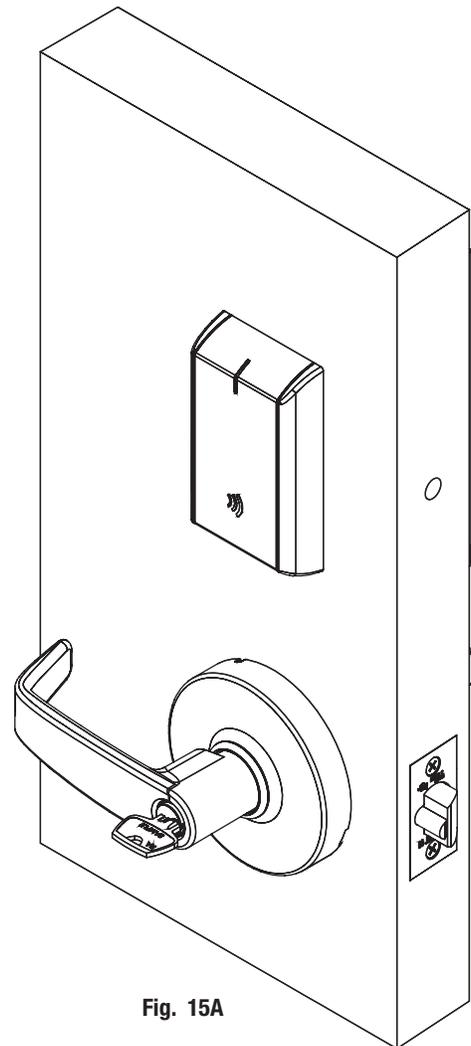

Fig. 15A
1. Insert key into cylinder and rotate (Fig. 15A).